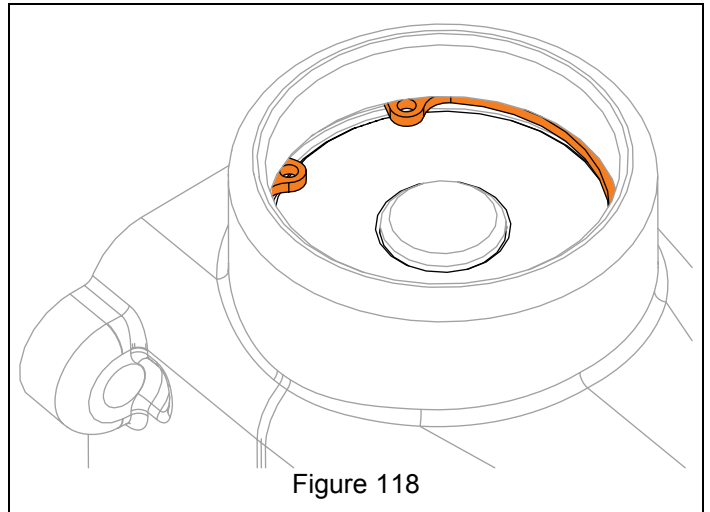

Figure 118
9. Reinstall retaining ring. See Figure 118.